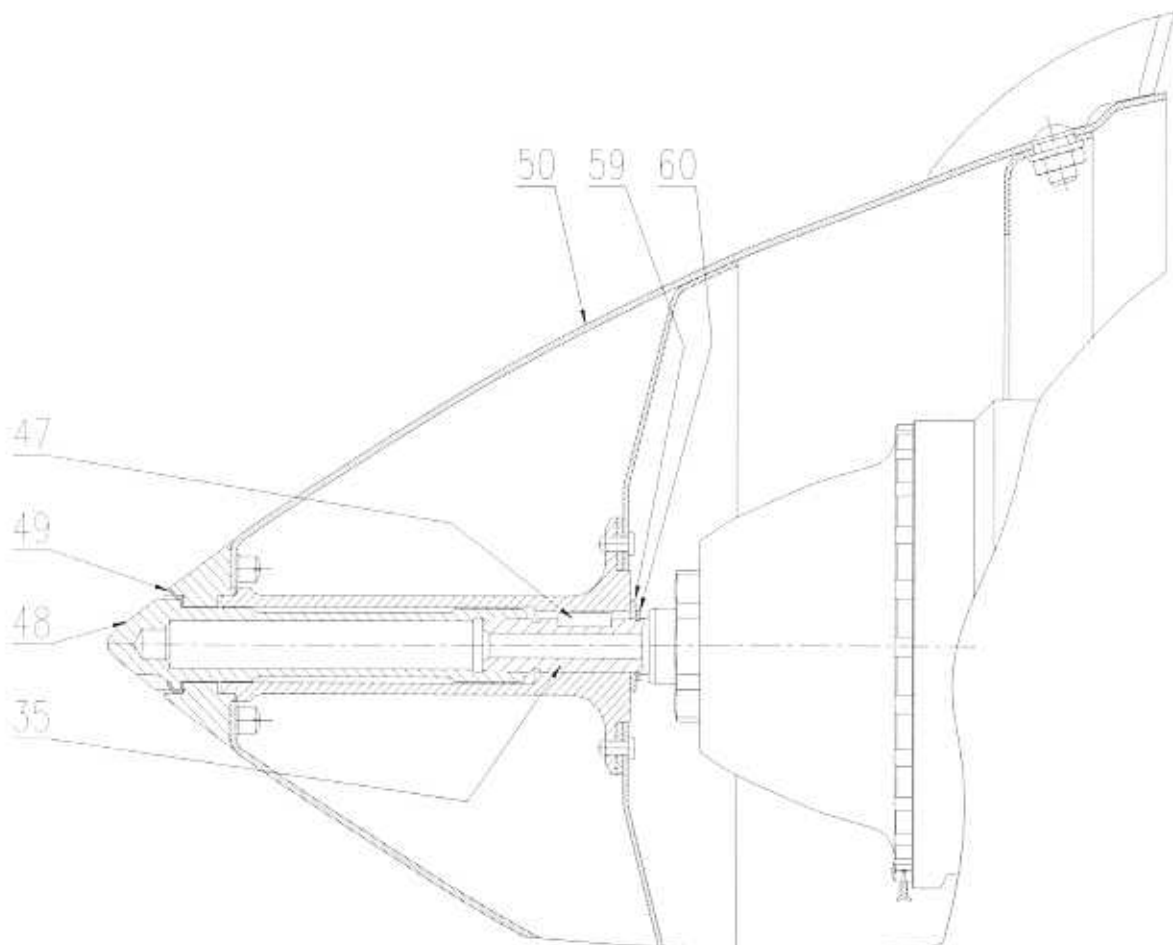
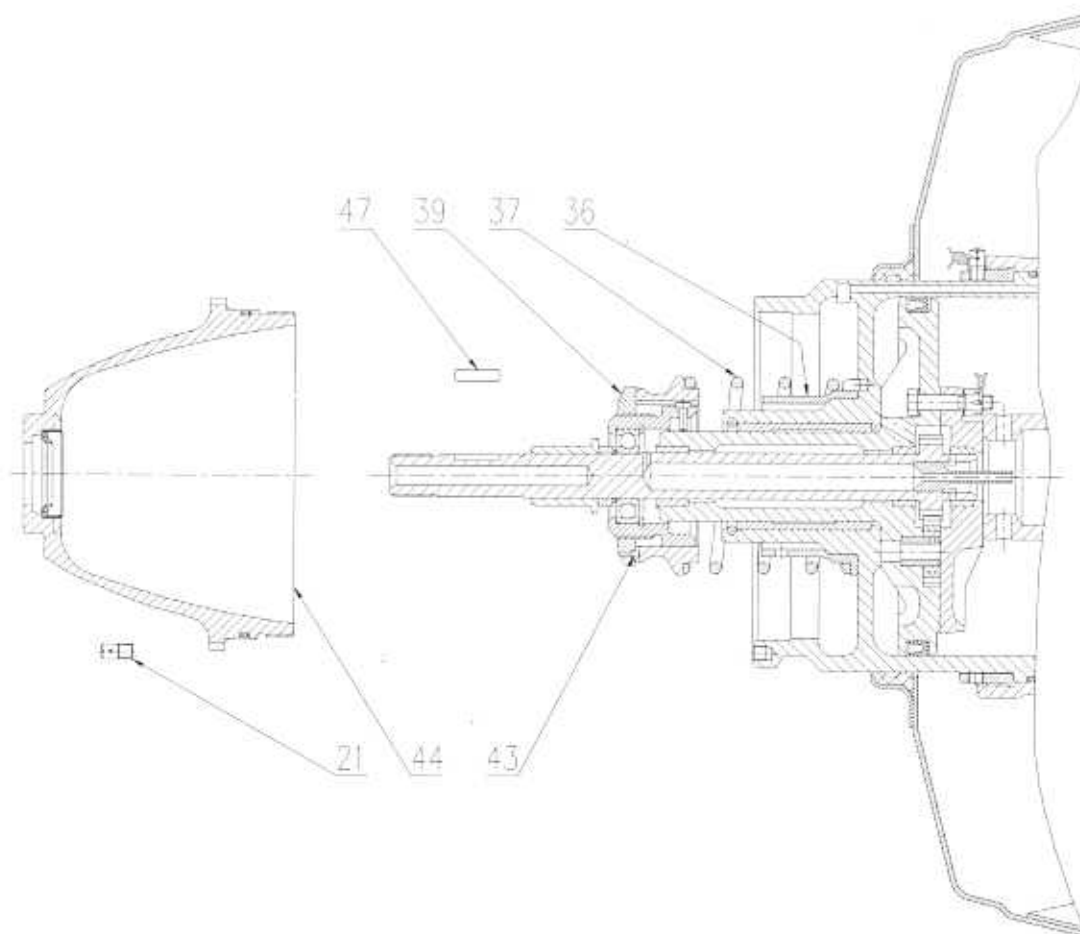
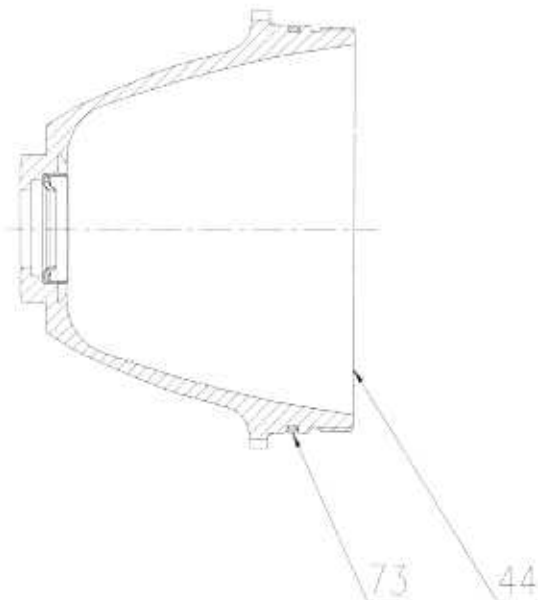
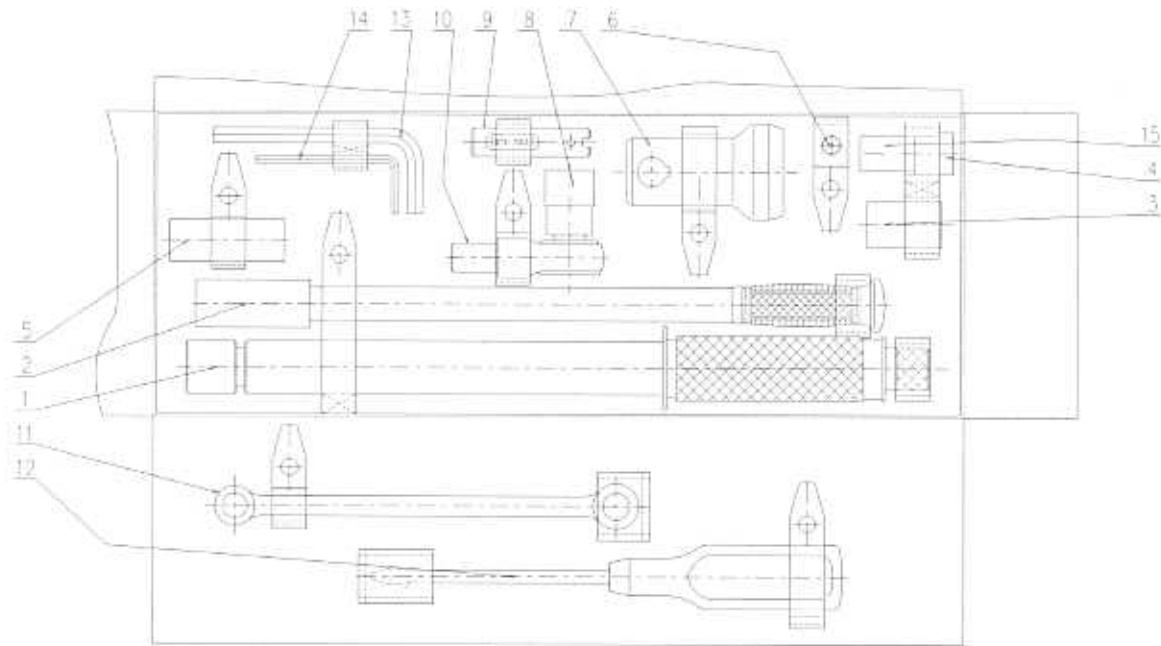

Fig. 8 Spinner installation
Fig. 12 Adjustment of the spring prestress of the propeller servomechanism
Fig. 15 Replacement of the packing ring
Fig. 20 Assembly tools for the V 503AP propeller Bag for set "A"
On the shaft **Nr 35 (fig. 8)** install the securing ring **Nr 60** and slide on the washer **Nr 59**. Into the shaft insert the key **Nr 47** and slide on the spinner **Nr 50**. Set on the securing washer **Nr 49** and fix the spinner on the shaft by means of the nut **Nr 48**. Tighten the nut by torque moment 88.5 to 132.7 lb in and lock by securing washer **Nr 49** against loosening. For assembly use the wrench **Nr 5**, adapter **Nr 9** and torque moment wrench **Nr 1, fig. 20**.
- Loose the securing bolt **Nr 21 (fig. 12)**, remove the securing ring **Nr 60 (fig. 8 and 21)** and by means of the wrench **Nr 7**, adapter **Nr 9** and lever **Nr 2** and then carry out dismantling the cylinder cover **Nr 44**. Change the prestress of the spring **Nr 37** by means of the nut **Nr 39**.
After adjusting the spring prestress, carry out again the assembly of the servomechanism parts, according to the **fig. 12**, if necessary, make the additional filling the oil in order to have the prescribed amount in accordance with a paragraph 4-4.4.
Carry out the removal of the spinner and propeller cover according to the point 4-5.1, free the securing screw Nr 21 (fig. 12), remove the key from the shaft by means of the bolt Nr 6 (fig. 20) and by means of the wrench Nr 7, lever Nr 2 with an adapter Nr 9 (fig. 20) carry out dismantling of the cylinder cover Nr 44. Remove the old packing ring Nr 73, fig. 15. Before installing the new packing ring, inspect the groove on the cylinder cover Nr 44 and also inspect the opposite side packing cylindrical surface, if it is not contaminated. Clean the surfaces dry. Insert the new packing ring into the groove through a thin thread. By pulling this thread under the packing ring along the whole perimeter of the cylinder cover Nr 44 eliminate possible overturning of the packing ring. The outer surface of the packing ring and also the opposite side packing surface cover by recommended oil. Screw in back the cylinder cover into the servomechanism according to the fig. 12. Tighten the cylinder cover by moment 265.5 through 442.5 lb in by wrench Nr 7 and moment controller Nr 1 with adapter Nr 9.
Carry out removal of the spinner and propeller cover according to the point 4-5.1. At the throat of the hub, where occurred the leakage of the oil in the region of packing cuff Nr 58, unlock the splint and free the nut Nr 5 (fig. 21) by means of the socket wrench Nr 8 and the lever Nr 2, together with adapter Nr 10, fig. 20. Screw-off the propeller blade Nr 1 and situate it in such a way, to avoid its damage. Free the sleeve Nr 3 and slide it over the end of the blade bushing Nr 2. Shift-off the ring Nr 57 and by means of the hook remove the old packing cuff. Clean carefully the packing space, cover with a thin layer of the recommended oil and set a new cuff in. When setting a new packing cuff, there must not be damaged the packing knives. Upon the packing ring set again the ring Nr 57 and the sleeve Nr 3. The face of the sleeve must be inserted behind the recess of the bushing Nr 2. Into the bushing screw in the propeller blade Nr 1 and carry out the assembly according to the paragraph 4-4.3. The assembly of the propeller cover and spinner carry out according to the paragraphs 4-4.5 and 4-4.6.
- Carry out disassembly of the spinner and propeller cover according to the point **4-5.1**, free the securing screw **Nr 21 (fig. 12)**, remove the key from the shaft by means of bolt **Nr 6, (fig. 20)** and by means of wrench **Nr 7, adapter Nr 9 and lever Nr 2 (fig. 20)** carry out the removal of cylinder cover **Nr 44**. Change the prestress of spring **Nr 37** by nut **Nr 39**.